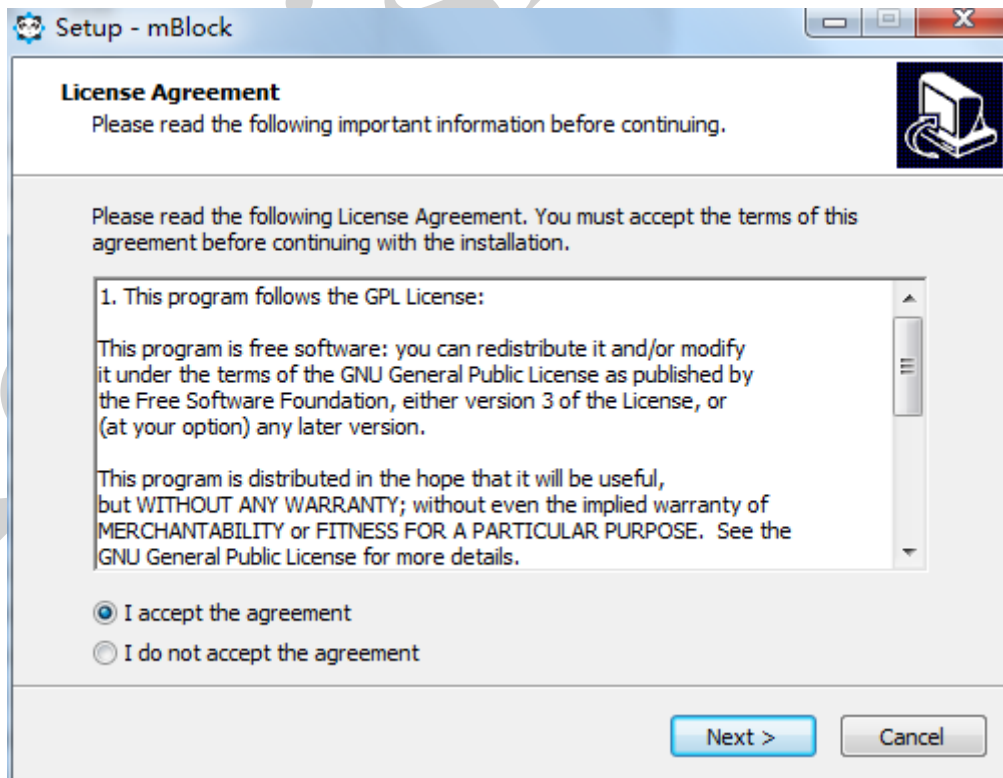
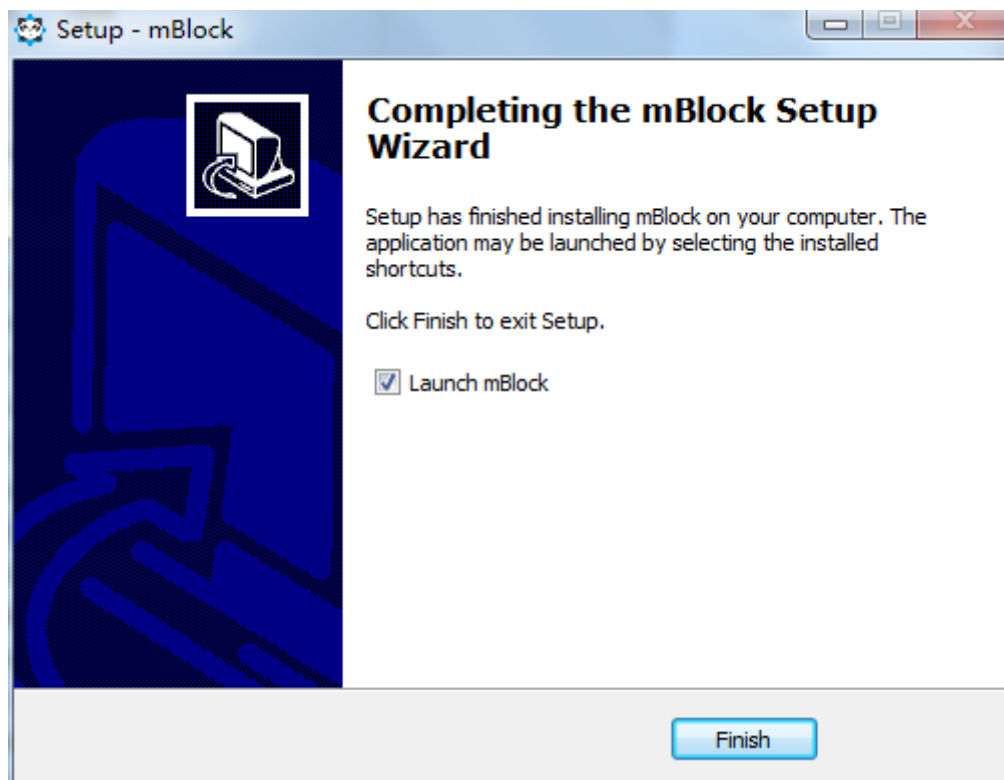

Figure 1-7
Figure 1-8
- 3) Click "I accept the agreement (A)" as shown in Figure 1-7, and then click "Next" to complete the installation, as shown in Figure 1-8.